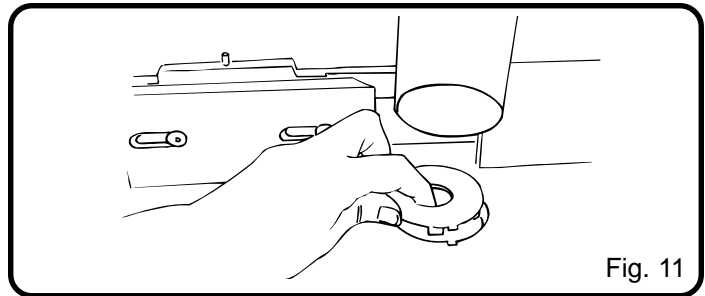

Fig. 11
- To insert the throat plate, position the throat plate over the throat opening in the router table and snap throat plate down and into place as shown in Figure 11. To remove throat plate, pull gently until the throat plate snaps out.